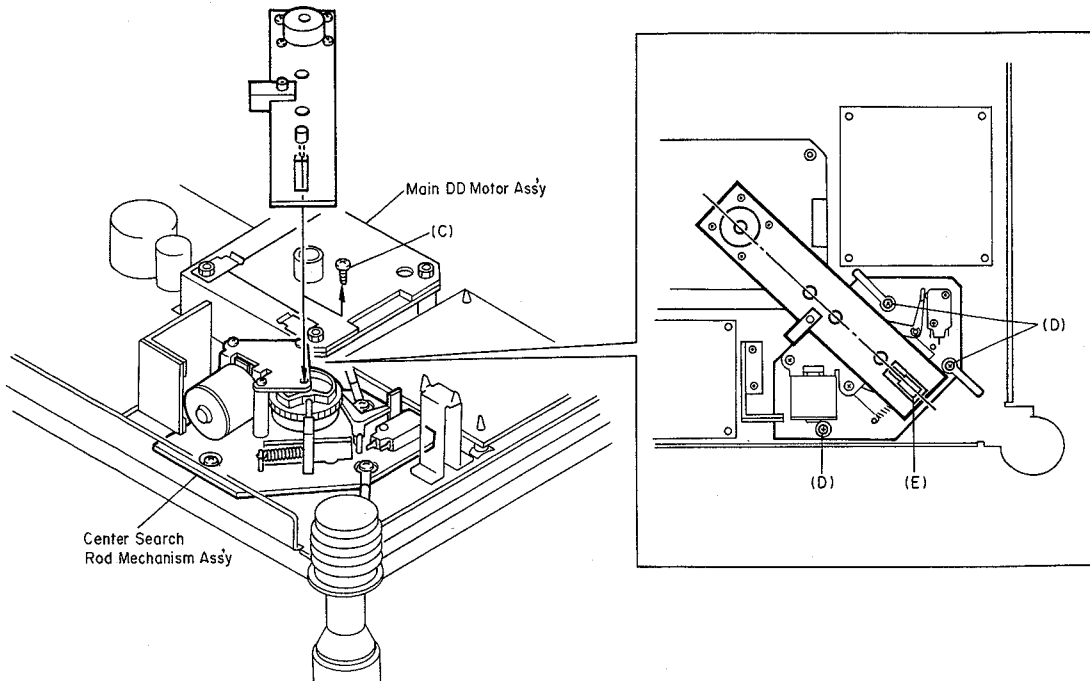

Fig. 5.6
(1) Remove screw (C) from the Center Search Rod Mechanism Chassis and loosen three screws (D).
(2) Install the Center Search Rod Positioning Gauge (DA0-9076A) as shown in Fig. 5.6. Protruding shaft of the Main DD Motor Ass'y is inserted into the hole of the Gauge, and the protruding pin of the Gauge is